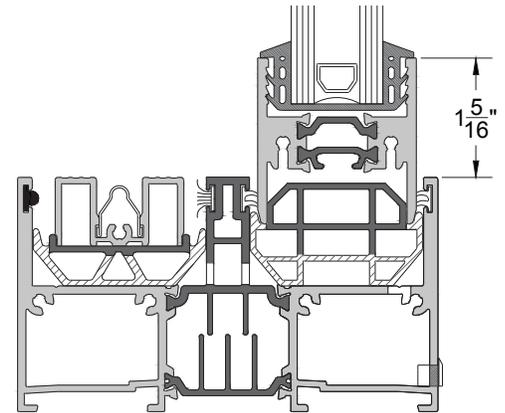

FIG. 14
- From the exterior, tilt the fixed panel and insert into top track. Swing bottom of panel in and set in place. The sill riser should sit centered on the rail. There should be a 1-5/16" top and bottom rail reveal. Measure rail reveal at both ends and center of the panel to ensure panel is sitting flat on sill riser. (FIG. 14)